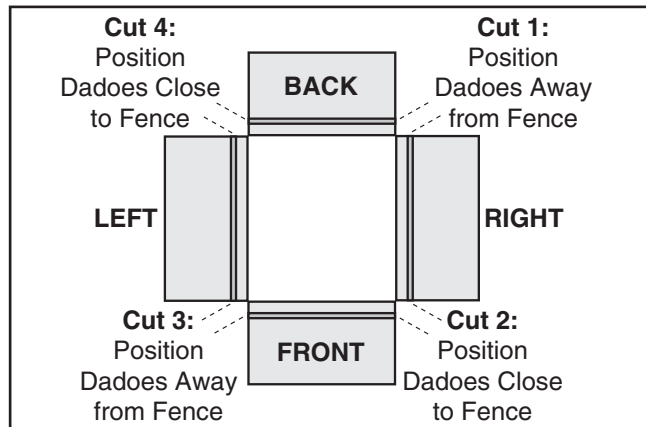
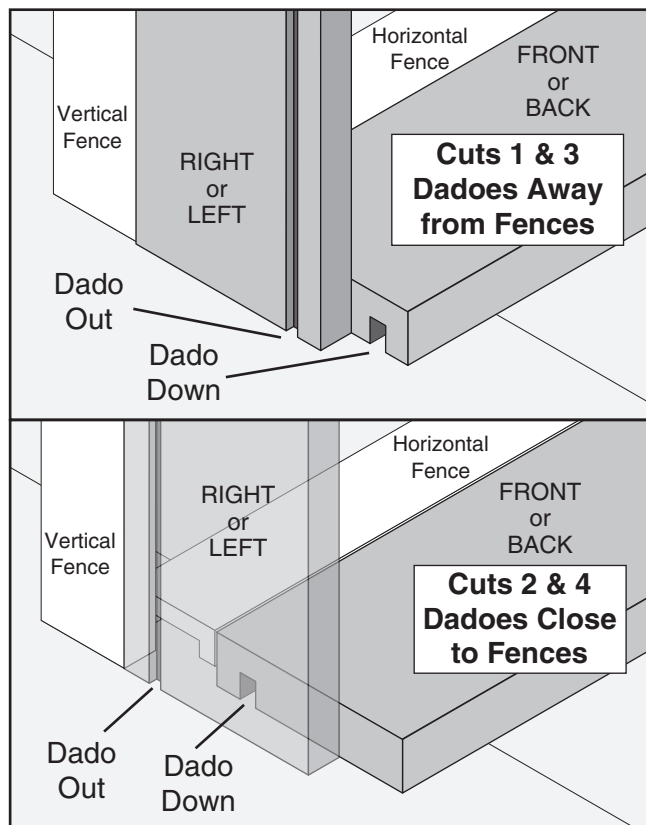

Figure 43. Drawer pieces laid out and marked inside face up; cutting order and workpiece position against fences also shown.
Figure 44. Workpiece positions for cuts.
The standard cutting order is shown in **Figure 43**. **Figure 44** shows the workpieces positioned with the dadoses close to or away from the fences.
1. Position the RIGHT workpiece on the vertical support bar, as shown in the top illustration in **Figure 44** (with the dado positioned out and opposite the fence), then clamp down the RIGHT workpiece.
2. Place the BACK workpiece on the horizontal table, as shown in the top illustration in **Figure 44** (with the dado positioned down and opposite the fence), then clamp down the BACK workpiece. The bottom of both workpieces should be flush with each other and both workpieces should be firmly against their respective fences.